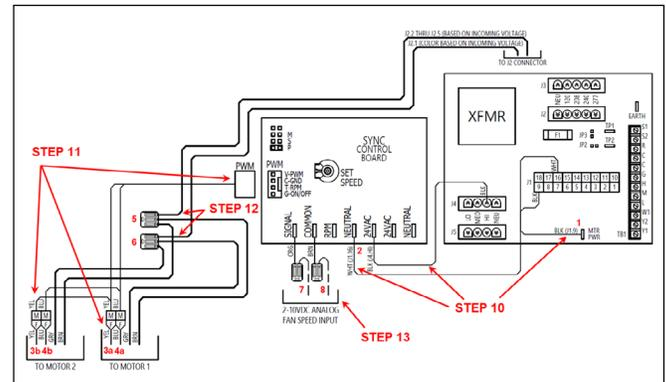

Figure 77 - Sync PWM Electrical Connections
CONNECT POWER AND FAN RELAY TO SYNC PWM (See Figure 77)
CONNECT MOTOR CONTROL SIGNAL TO SYNC PWM (See Figure 77)
CONNECT MOTOR POWER WIRES TO FRBii (See Figure 77)
CONNECT 2-10VDC SIGNAL WIRES TO SYNC PWM (See Figure 77)
- Ensure that the new wires have been connected as specified in Figure 77.